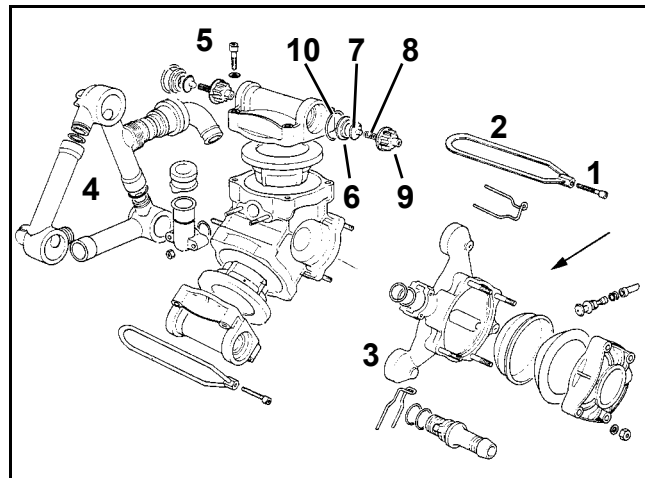
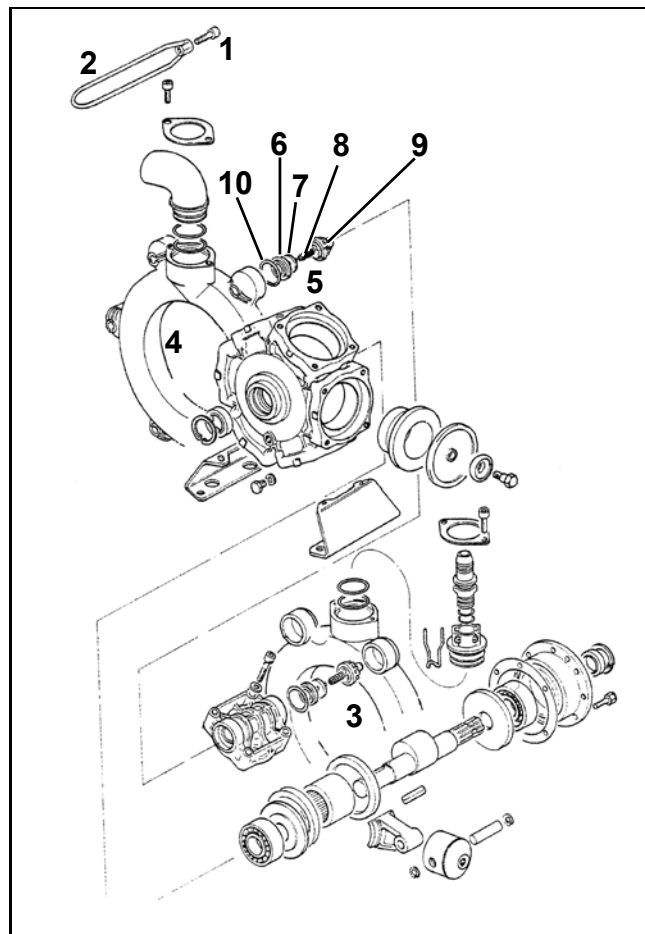

Fig. 133
Fig. 134
- Slacken bolt (Fig. 133/1, Fig. 134 /1) and remove tensioning clamp (Fig. 133/2, Fig. 134/2).
- Take off suction- and pressure-tube (Fig. 133/3, Fig. 134/3 and Fig. 133/4, Fig. 134/4).
- Take off valve groups (Fig. 133/5, Fig. 134/5) .
- Check for damage or wear of the valve seat (Fig. 133/6, Fig. 134/6), valve (Fig. 133/7, Fig. 134/7), valve spring (Fig. 133/8, Fig. 134/8) and valve guide (Fig. 133/9, Fig. 134/9) and remove O-ring (Fig. 133/10, Fig. 134/10).
- **When refitting watch that the valve guide (Fig. 133/9, Fig. 134/9) will not be damaged. Damage could lead to blockage of valves.**
- Re-install pressure- (Fig. 133/6, Fig. 134/6) and suction-hose (Fig. 133/5, Fig. 134/6) to the pump housing and refit the tensioning clamp.
- Tighten the bolts (Fig. 133/1, Fig. 134/1) always diagonally with a torque of **11 Nm**.